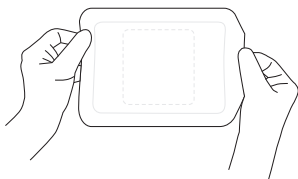

Fig. 9b
- Center dressing over the gauze and apply to skin (Figure 9b)